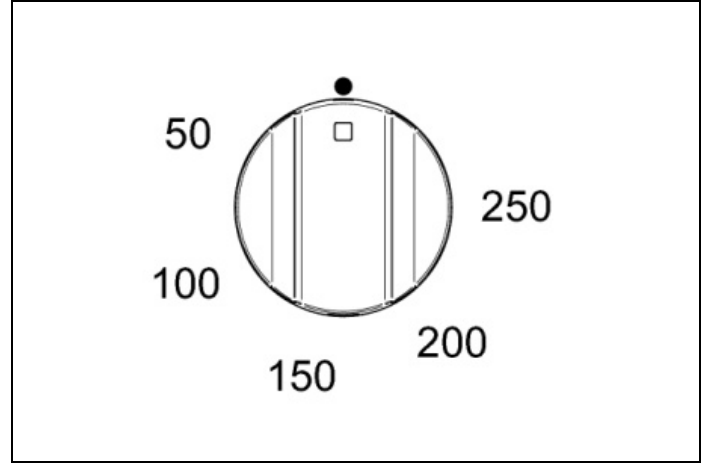
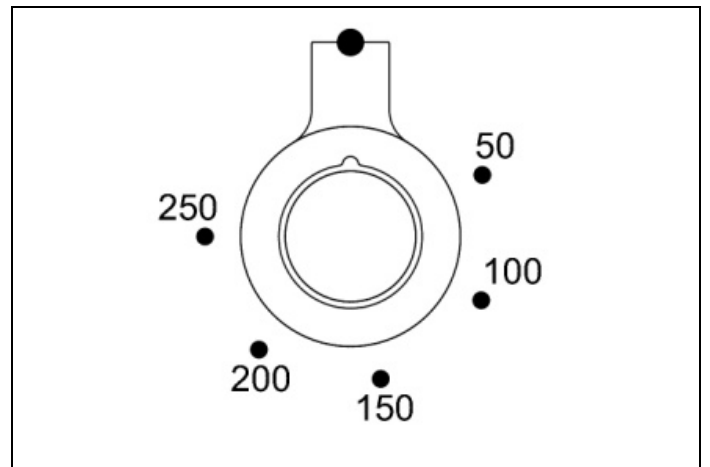
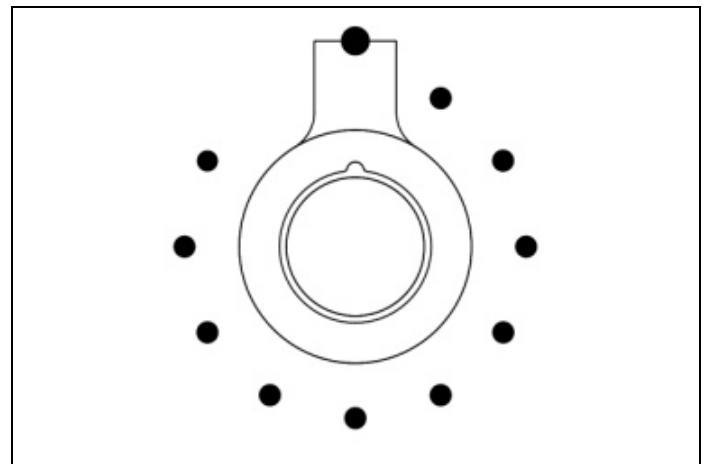

Fig. 28
Fig. 29
Fig. 30
- 2) Turn the temperature knob (Fig. 28 - Fig. 29 and Fig. 30 for the PRO T model only) clockwise to select the temperature required. The orange light turns off once the oven has heated to the chosen temperature and is ready for use. It is normal for this light to switch on and off during cooking, as the heating elements operate to keep the temperature constant. (oven operations is indicated by the programmer display for the PRO T version only).